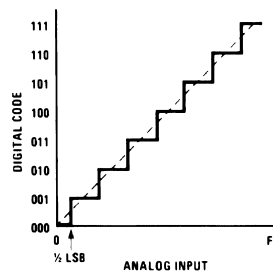

Figure 2. ADC Transfer Curve,  $\frac{1}{2}$  LSB Offset at Zero
**Quantizing Error** is the maximum deviation from a straight line transfer function of a perfect ADC. As, by its very nature, an ADC quantizes the analog input into a finite number of output codes, only an infinite resolution ADC would exhibit zero quantizing error. A perfect ADC, suitably offset  $\frac{1}{2}$  LSB at zero scale as shown in Figure 2, exhibits only  $\pm\frac{1}{2}$  LSB maximum output error. If not offset, the error will be  $-1/+0$
**Linearity**, or, more accurately, non-linearity specifications describe the departure from a linear transfer curve for either an ADC or a DAC. Linearity error does not include quantizing, zero, or scale errors. Thus, a specification of  $\pm \frac{1}{2}$  LSB linearity implies error in addition to the inherent  $\pm \frac{1}{2}$  LSB quantizing or resolution error. In reference to Figure 2, showing no errors other than quantizing error, a linearity error allows for one or more of the steps being greater or less than the ideal shown.